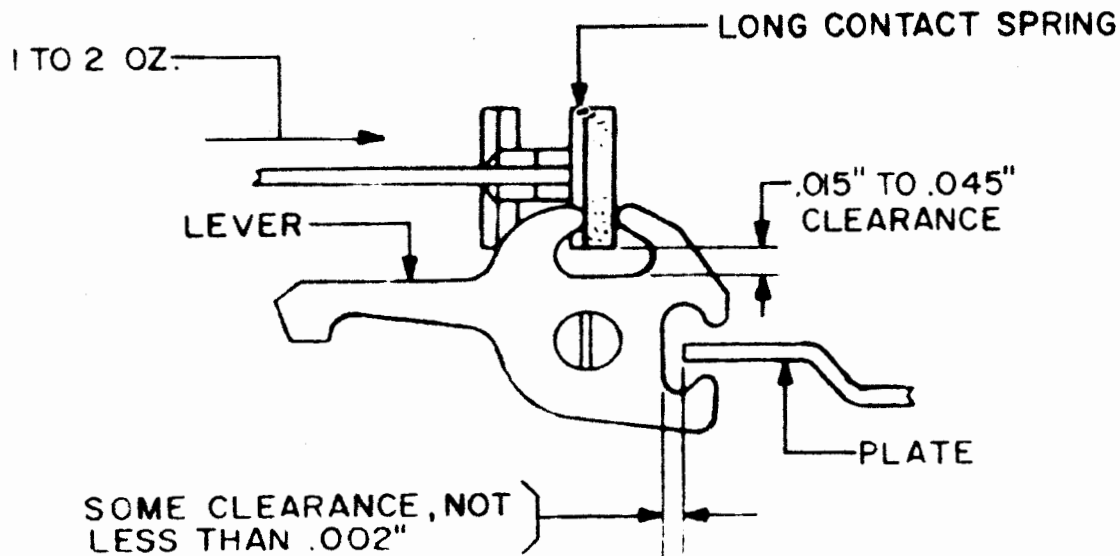

Figure 56
10.01 Repeat-contact Bracket: There should be some clearance, minimum 0.002 inch, between the rear edge of the plate on the armature and the adjacent vertical edge of the forward cutout in the lever, when the parts are positioned to make that clearance a minimum. See Figure 56.
(1) The contact points should be in line and there should be minimum 0.015 inch, maximum 0.045 inch clearance between the insulator on the long contact spring and the bottom of the upper cutout in the lever. See Figure 56.
(3) With the detent-lever spring removed from the detent lever and the armature held partially operated so that neither lobe of the lever is touching the plate, the contact points should meet squarely and it should require minimum 1 ounce, maximum 2 ounces to separate contact points. See Figure 56.